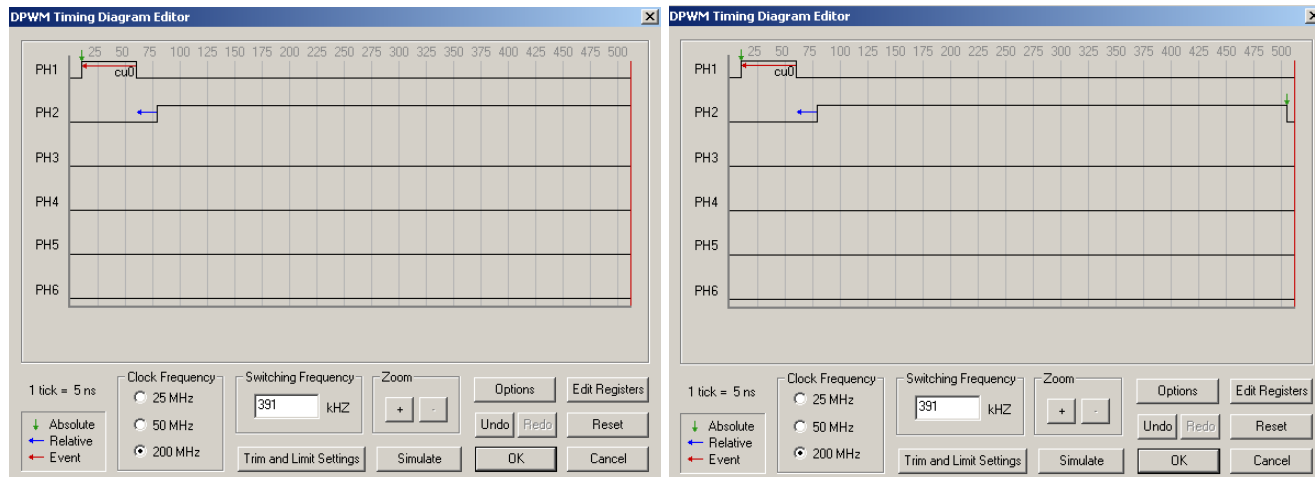

Figure 10. DPWM Timing Diagram Editor—Phase 2
1. Now, create the timing for Phase 2. For Phase 2, the goal is to create a relative rising edge relative to the falling edge of Phase 1 and an absolute falling edge on Phase2 at time tick 505. To create the relative rising edge, hold the mouse above the Phase 2 zero timing line (default) at time tick 100. Then, either double-click with the left mouse button or right-click at that point and select **Relative Edge**. Next, select the edge to reference by clicking on Phase 1's falling edge. A relative edge at approximately time tick 90 will be created (see Figure 10).
2. To finish the timing for Phase 2, create an absolute falling at time tick 505. To create this edge, hold the mouse above the Phase 2 timing line at time tick 505. Then, either double-click with the left mouse button or right-click at that point and select **Absolute Edge**. An absolute edge at time tick 505 will be created (see Figure 10).